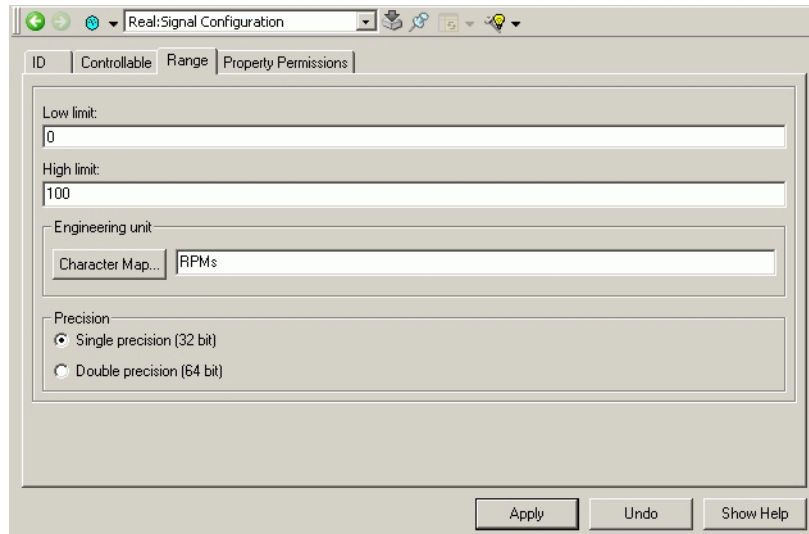

Figure 11. Real Signal - Range Tab
3. Select the **Range** tab, Figure 11.